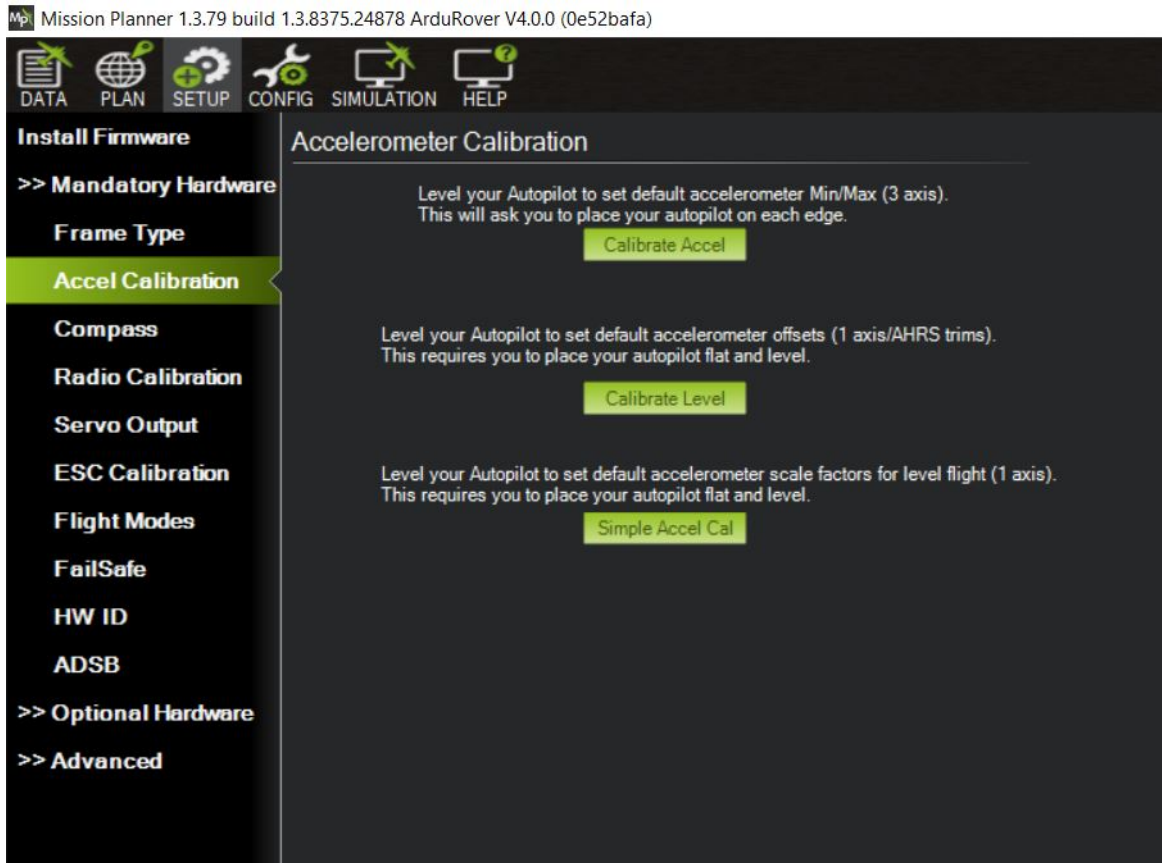

Figure 85: Accel Calibration
13. Select Calibration Level. (See Figure 85)